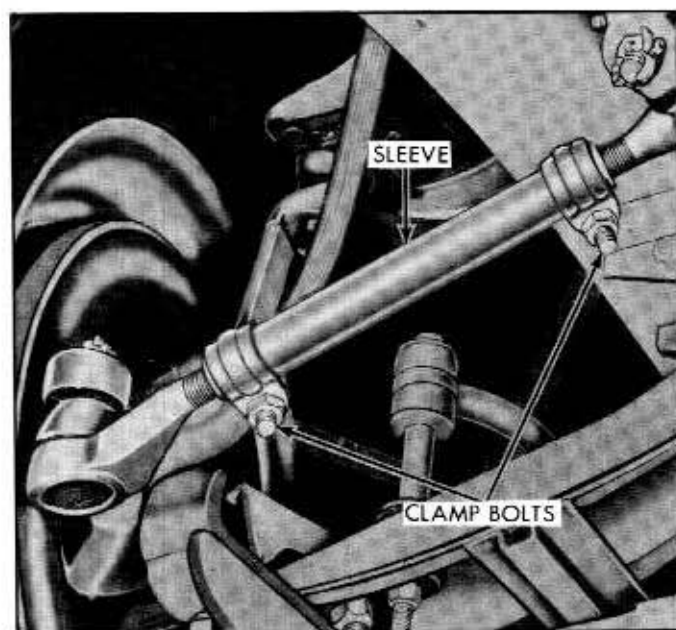
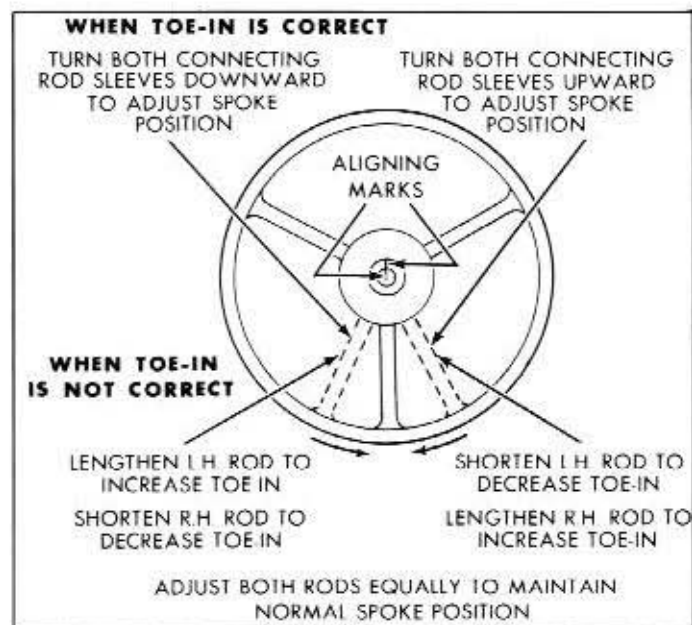

Fig. 3-5—Spindle Connecting Rod Sleeve—(60C-405)
Fig. 3-6—Toe-In and Steering Wheel Spoke Alignment (60C-406)
Toe-in is the difference between a measurement taken at the extreme front of the tires and a measurement taken at the extreme rear of the tires, reflecting the amount the wheels are turned in. Toe-in is adjusted by means of the sleeve assembly at the outer end of each tie rod. See figure 3-5. Toe-in is correct when it is in the range of $\frac{1}{4}$ inch minimum and $\frac{5}{16}$ inch maximum ($\frac{9}{32}$ inch preferred). Before checking or adjusting toe-in, be sure the alignment mark on the steering wheel is lined up with the aligning mark on the end of the steering shaft. The aligning mark on the shaft indicates the high point of the steering gear. See figure 3-6.
2. Check the steering wheel spoke position when the front wheels are in the straight ahead position. If the spokes are not in their normal position they can be properly adjusted at the same time that toe-in is adjusted. See figure 3-6.
3. Position toe-in gauge on the wheels and take readings. If the steering wheel spokes are in the normal position, loosen the clamps and lengthen or shorten both spindle connecting rods equally to obtain correct toe-in. See figures 3-6 and 3-7.
4. If the steering wheel spokes are not in their normal position, loosen the clamps and shorten or lengthen the rods. Refer to figures 3-6 and 3-7 and correct the steering wheel alignment. Torque clamp bolts to 10-15 lbs. ft.